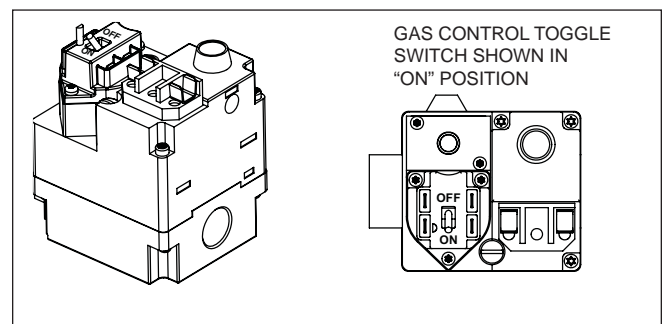

Figure 27. Gas valve.
5. Switch the gas valve toggle switch to ON (see Figure 27).